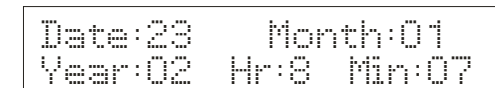

Figure 164
3. Key in the Date, Month, Year, Hr and Min using the numeric keypad. Use the **>/CAL** key or the **ENTER** key to toggle to each field. If you make a mistake keying the value, use the **Δ/MI** and **∇/MR** keys to highlight mistake, then re-enter. See **Figure 164**.